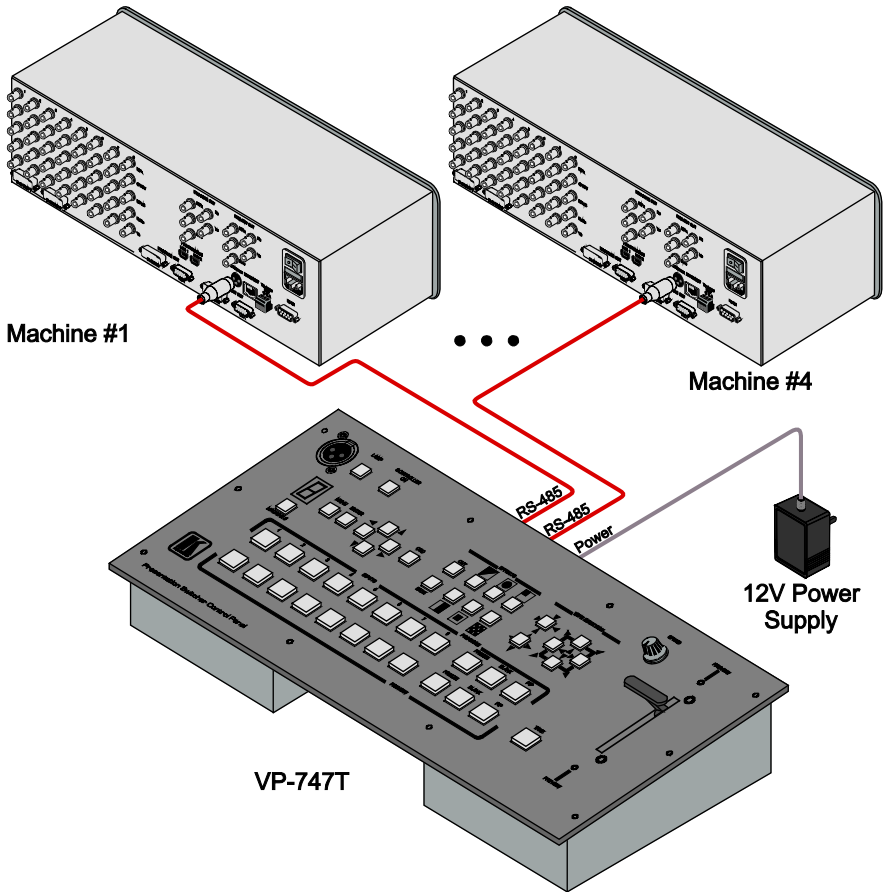

Figure 7: Connecting the VP-747T
To connect the **VP-747T** to up to four **VP-747** machines, as the example in Figure 7 illustrates, do the following¹:
4. Connect the 12V DC power adapter to the power socket and connect the adapter to the mains electricity (not illustrated in Figure 7).